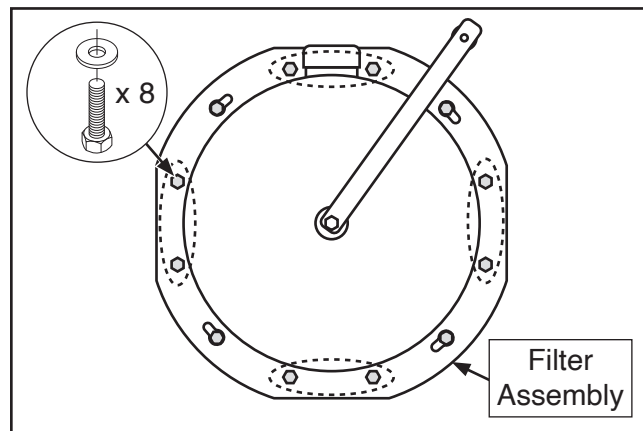

Figure 63. Location of filter assembly fasteners viewed from bottom.
16. Thread (8) flat washers and hex bolts from **Step 4** into (8) holes in dust collector frame (see **Figure 63**).